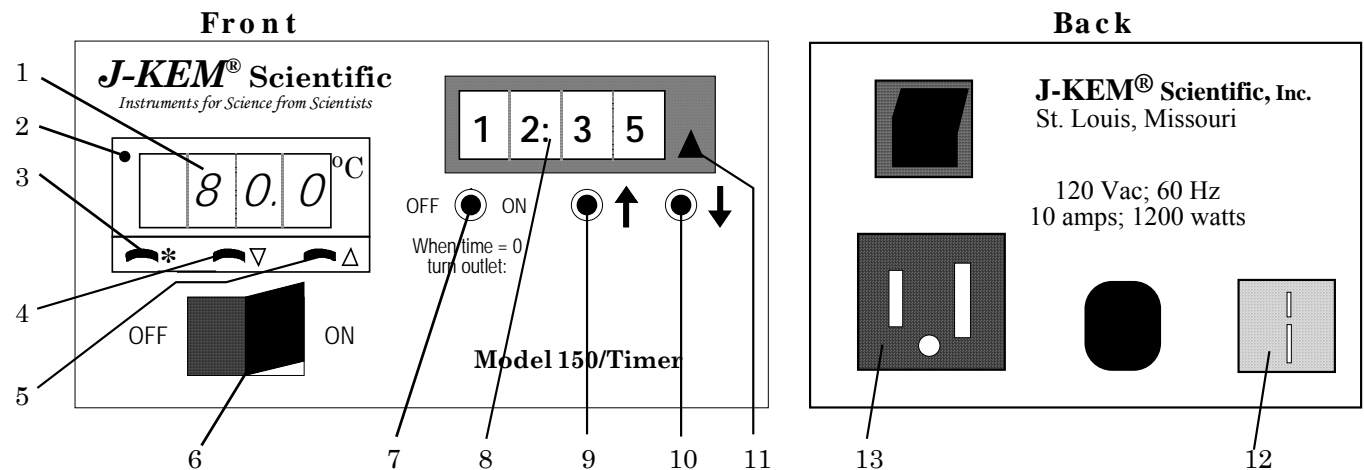

Figure 1
3.5 Temperature Sensor Input. Each controller is fitted with a specific *type* of temperature sensor input and can only be used with a temperature sensor of the same type (thermocouple or RTD). For the correct temperature to be displayed, the thermocouple type must match the receptacle type on the front of the controller (Figure 1; #12). All thermocouples are color coded to show their type (Blue = type T; Yellow = type K; Black = type J). The color of the thermocouple plug must match the color of the receptacle on the front of the controller. If the temperature sensor is broken or becomes unplugged, the error message “**FAiL**” “**inPt**” appears in the display and the controller stops heating.